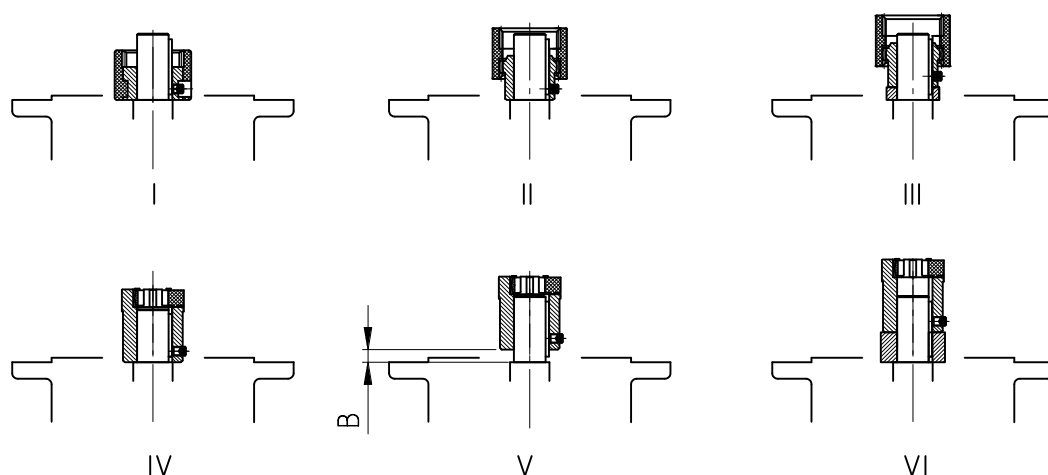

Figure 3-13: Fitting the coupling onto the motor shaft - various types of coupling
3. Tighten the coupling sleeve on the motor shaft in accordance with the motor manufacturer's instructions until it touches the collar. With motor sizes 90, 160, 180 and 225, any spacer bushes must be positioned between the coupling sleeve and the collar. With standard helical gear units, dimension B between the coupling sleeve and the collar must be observed (see Figure 3-13). Certain **NEMA adapters** require the adjustment of the coupling in accordance with the specifications indicated on the adhesive plate.
6. Mount the motor to the IEC /NEMA adapter, do not forget to fit the gear rim or the sleeve. (See Figure 3-13)